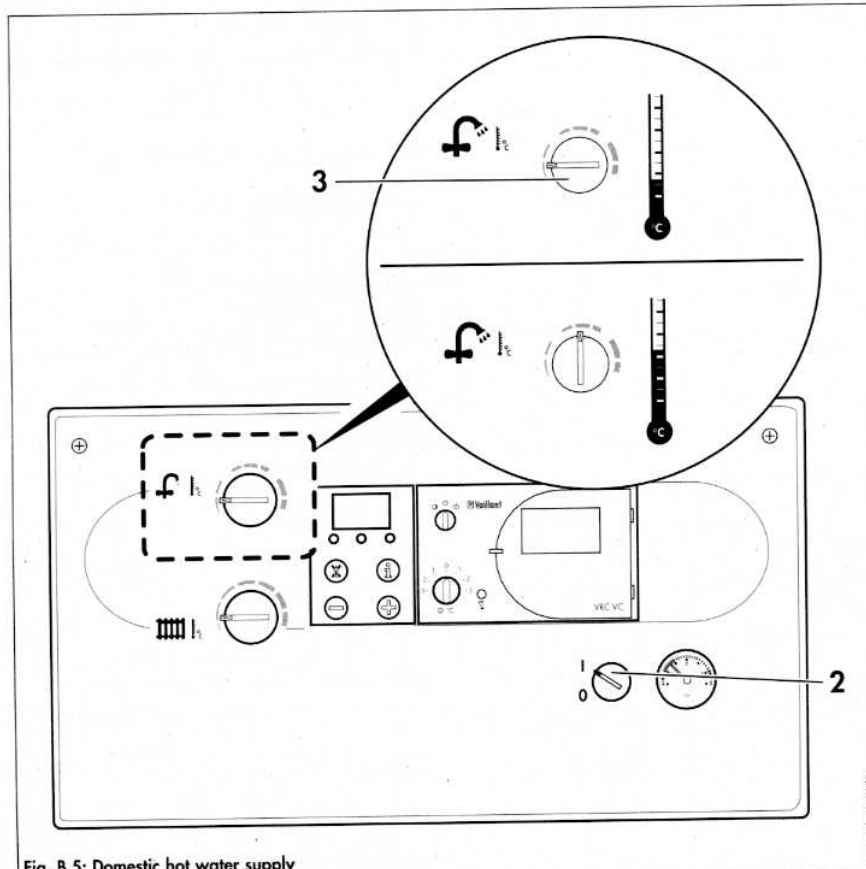

Fig. B.5: Domestic hot water supply
- ⚠ If you live in a hard water area please do not set the control knob above the mid (12 o'clock) position to prevent excessiv scale formation (fig. B.5).